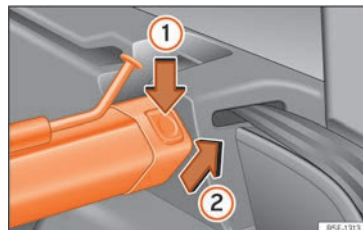

Fig. 140 In the luggage compartment: removing the net partition.
- Press the left or right release catch »» Fig. 140 in the direction of the arrow ①.
- Remove the casing from the support in the direction of the arrow »» Fig. 140 ②.
- Press the casing into the left and right supports in the opposite direction to the arrow »» Fig. 140 ② until it engages.